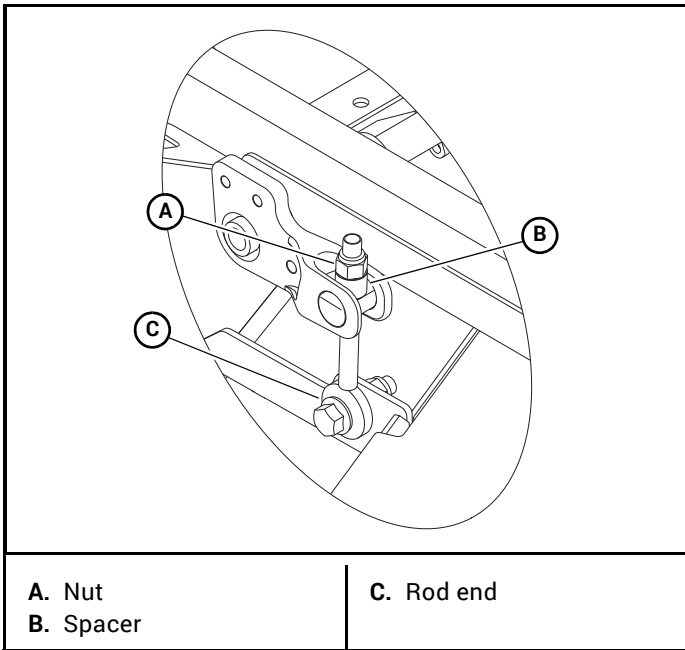

Figure 6-3
6. Adjust the nut on each deck level rod end over the three blocks so that the deck is sitting on the block and the nut is on the deck level spacer. Figure 6-3